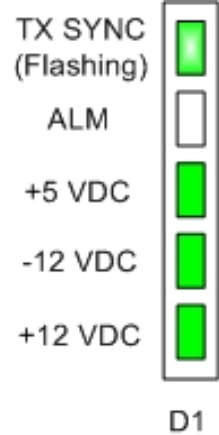

Figure 5.4.1-1 LED Display
1. Using a straight blade screwdriver, loosen the two (2) screws that secure the door on the Main Electronics Enclosure.
3. Observe that the first three (3) green LEDs are lit on D1 of the Signal Processor PCB. Observe that the last LED is blinking at approximately 1 Hz (once per second). Refer to Figure 5.4.1-1.
9. Close the Main Electronics Enclosure door and tighten the two (2) screws to secure the door.
3. Observe LED array on the Signal Processor PCB. It should be illuminated as shown in Figure 5.4.1-1. The ALM LED is only used with the 4-20 ma option. If correctly wired, the ALM LED should be OFF.